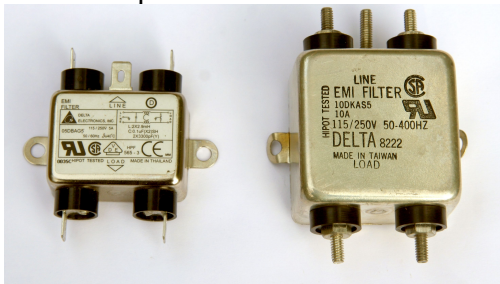
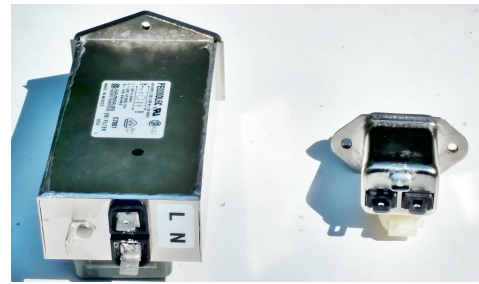

Fig 29a
Fig 29b
**Most common mode noise on 120/240V power wiring is caused by a Pin One-like problem with the green wire where it connects to equipment.** It SHOULD go straight to the shielding enclosure, not to the circuit board. Often it does not. Commercial power line filters are effective only if either built into the noisy product (Fig 29b), with the power system green wire making direct contact with the chassis, or if external to the product (Fig 29a) with “zero-length” leads and the green wire making direct contact with the chassis immediately adjacent to the other power conductors (that is, phase (hot) and neutral).
**Commercial AC power line filters (Fig 29) are generally a waste of money**, because they provide only differential mode filtering. Common mode current, nearly all of which is on the ground conductor (the green wire), goes right past the filter – it goes to the filter chassis at input and output. The filters of Fig 29b have a built-in standard IEC power connector, and it is primarily the bonding of the green wire to the chassis (by mounting the filters to the chassis) that solves RFI problems, not the components inside the filter!